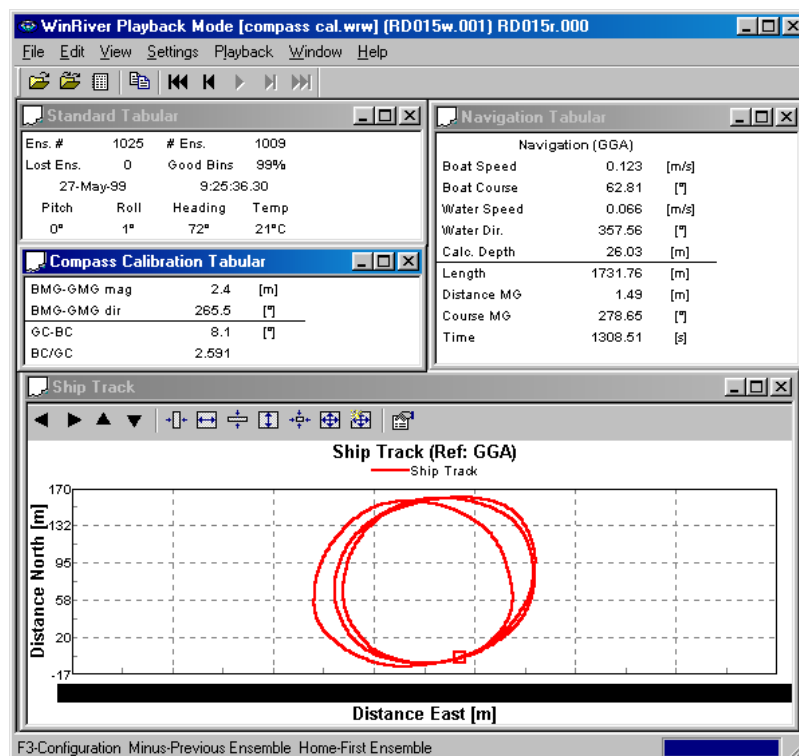

Figure 37. Method 2 Compass Correction with Correction Applied
- l. Start *WinRiver* in the Playback mode and replay the data using the corrected, GPS-referenced configuration file. The circle non-closure error indicated by the **BMG-GMG Magnitude** will be minimized. If the compass has been adequately corrected, the ratio of **BMG-GMG Magnitude** to **Length** should be 0.01 or less ($2.4/1731.50 = 0.0013$ in Figure 37).